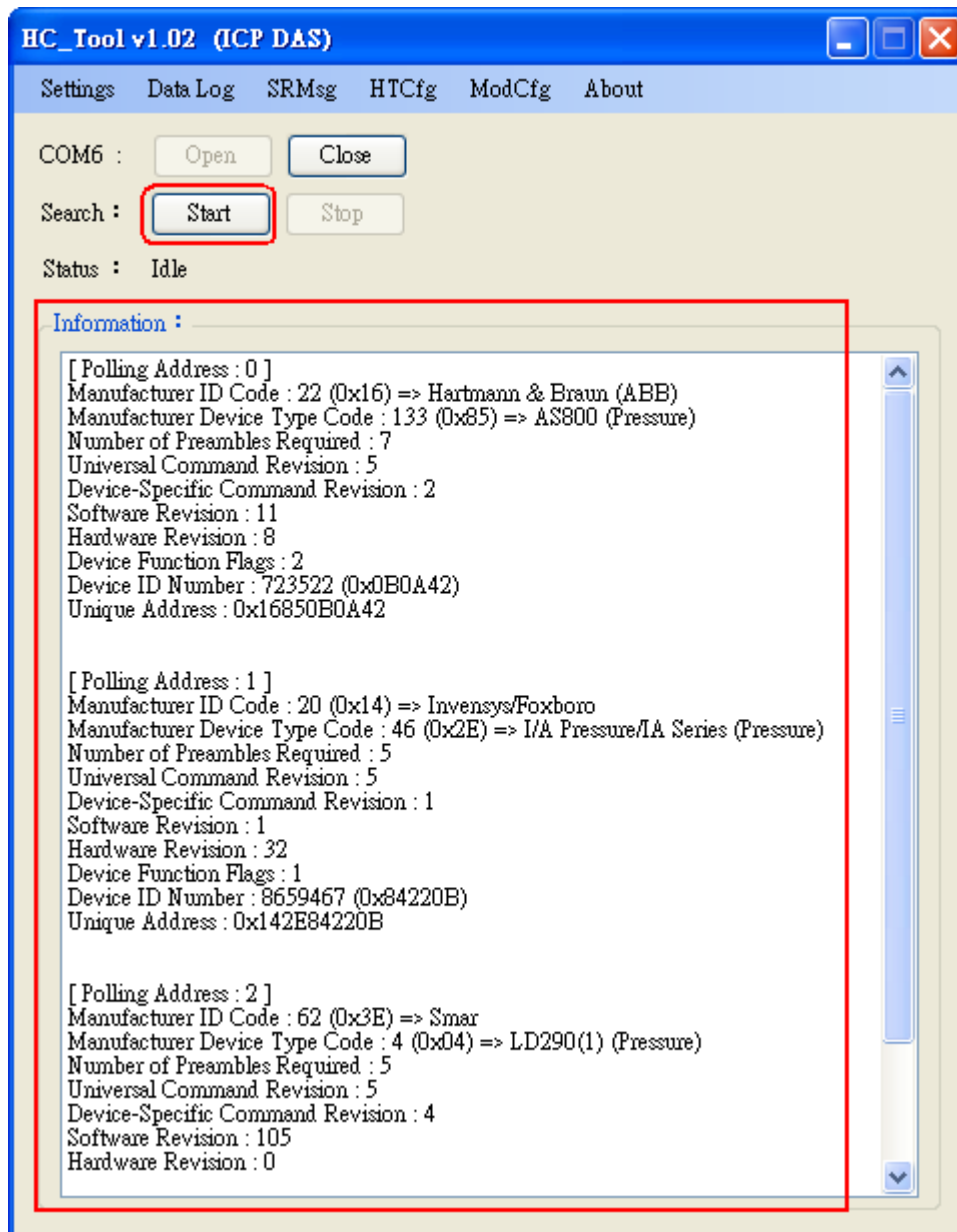

Figure 4-8: HART device Information
(2) Click “**Start**” button to search all HART devices and the result will be shown in the “Information” field like Figure 4-8.